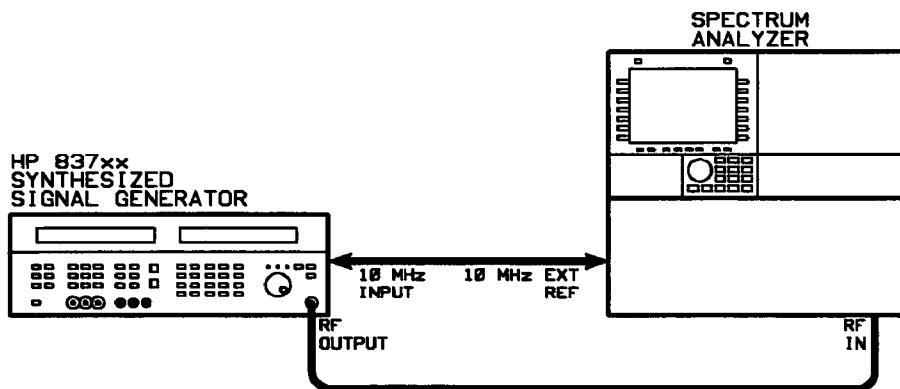

Figure 3-13. Pulse On/Off Ratio Test Setup
1. Connect the equipment as shown in Figure 3-13.